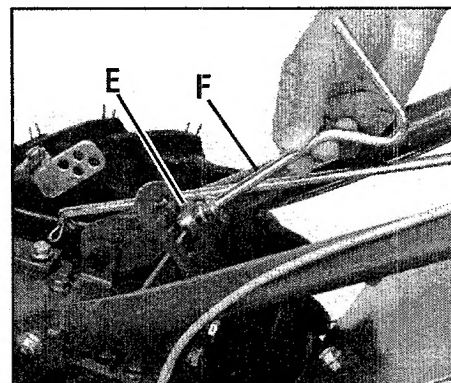

Figure 2-4: Install adjustment handle.
4. Move the handlebar to align the hole in the cross-brace with one of the four slots in the curved height adjustment bracket. Place the keyed washer (E, Figure 2-4) on the height adjustment handle (F) with the raised keys (edges) on the washer facing down.